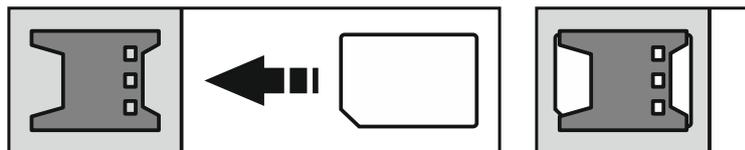

Fig. 7. Installing the SIM card.
11. Insert the nano-SIM card into the socket (see: Fig. 7).